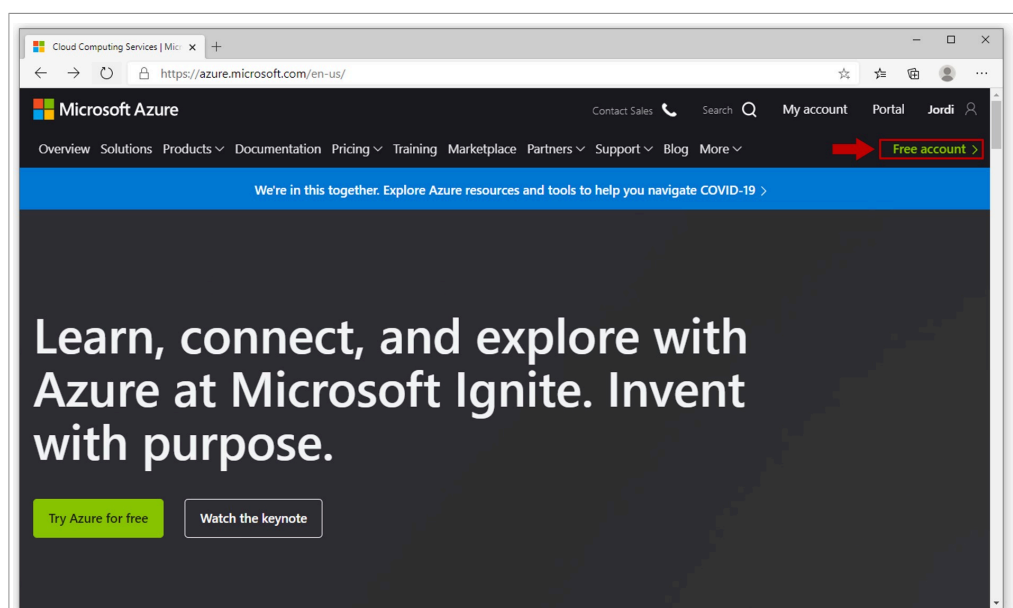

Figure 39. Azure subscription creation
1. Go to <https://www.azure.com> and click the green **Free account** button as shown in Figure 39: